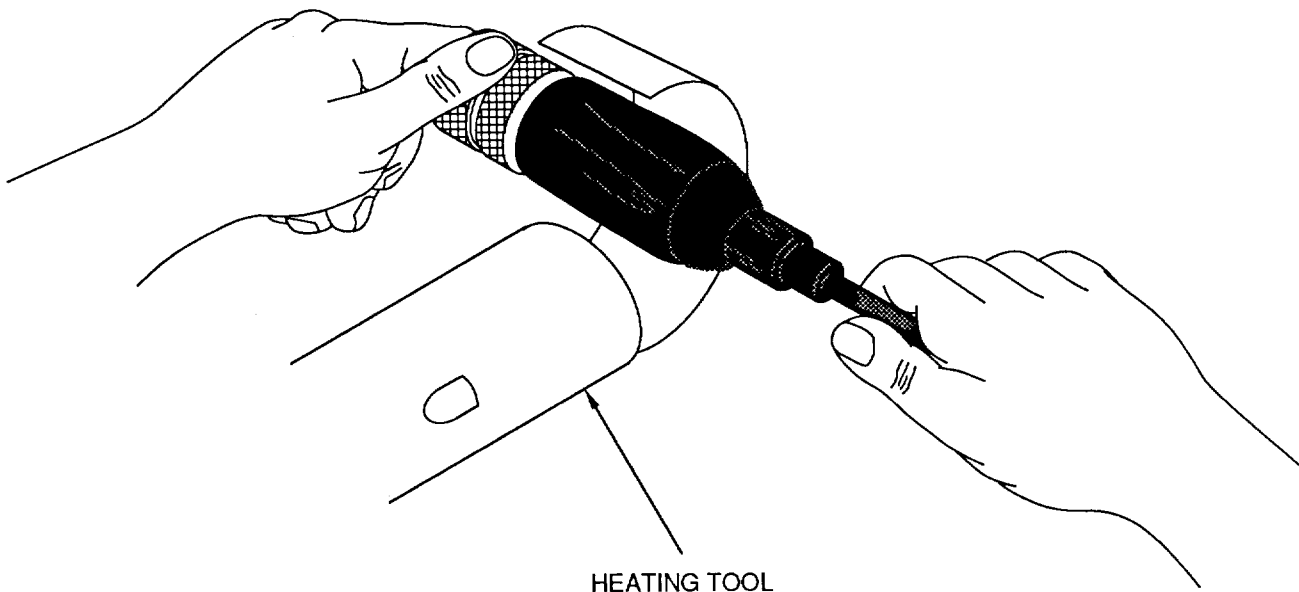

Figure 9. Heating Boot
c. Using heat gun and appropriate reflector, heat boot until it is warm to touch and becomes flexible (Figure 9)